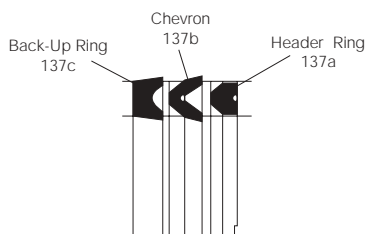

Fig. 8 Assembly Sequence of Chevron Seal Components
- 1 RGLL and RKLL gland service kits contain an O-ring (45) which acts as a static seal between the inner gland and head. This O-ring may be left in place unless it is faulty. If damaged, the old O-ring and its back-up washer (134) should be removed from the gland bearing, and the groove thoroughly cleaned. Lubricate the replacement parts, and fit the back-up washer into the groove, followed by the O-ring.
- 3 Fit the wear rings 139b into the gland, and slide the gland (14b), closed end first, onto the piston rod and press fully into the head (1).
- 4 Referring to figure 8, identify the header ring (137a) from the set of chevron seals and slide it, closed end first, onto the piston rod and into the gland, as shown in figure 4. Insert all the chevrons (137b) in the same manner, **with the lips of the seals facing the inner (cylinder) end of the gland.** When all the chevrons have been fitted, install the back-up ring (137c) with its angled face against the last chevron, as shown. Install the back-up washer (138) as shown in figure 4.
- 5 Fit the wiperseal (40) into the outer groove of the gland retainer (27), **with the lip facing outwards.** Lightly compress and insert the wear ring into the recess in the inner face of the retainer. Lubricate the retainer, seal and wear ring.